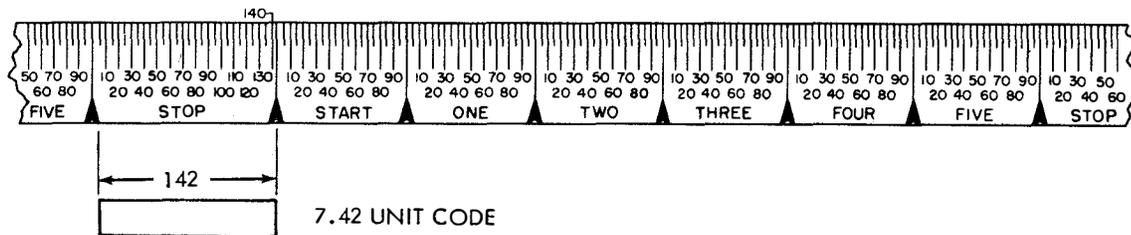

Figure 1 - Length of Stop Pulse
(1) Insert Blank combination tape in sensing head, trip the distributor clutch, and orient the scale of the test set to align the 0 mark of its stop segment with the beginning of the stop pulse image. Length of the trace shall extend from 0 to 142 ±4 divisions on the test-set scale. (See Figure 1.)
- (1) Insert Blank combination tape in the fixed sensing head. Trip the fixed reader sensing shaft clutch (on some units, the sensing shaft clutch may be tripped electrically via operation of the pivoted head distributor shaft). Orient the scale of the test set to align the 0 mark of its stop segment with the beginning of the stop pulse image. Length of the trace shall extend from 0 to 142 ±4 divisions on the test-set scale. (See Figure 1.)
(2) Check the No. 2 and No. 4 contacts in accordance with the instructions given for the No. 2 and No. 4 distributor contacts of the pivoted sensing head.
(3) Check the No. 1, No. 3, and No. 5 contacts in accordance with the instructions given for the No. 1, No. 3, and No. 5 distributor contacts of the pivoted sensing head.